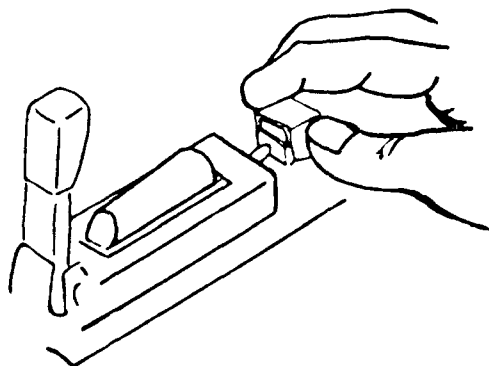

Figure 5-61.—Pull safety to arm.
*Pull safety to arm* (fig. 5-61). Check the backblast and then place the launcher on your shoulder; pull the safety to the arm position and aim the launcher (if the trigger safety handle will not remain in the arm position, the launcher is not fully extended).